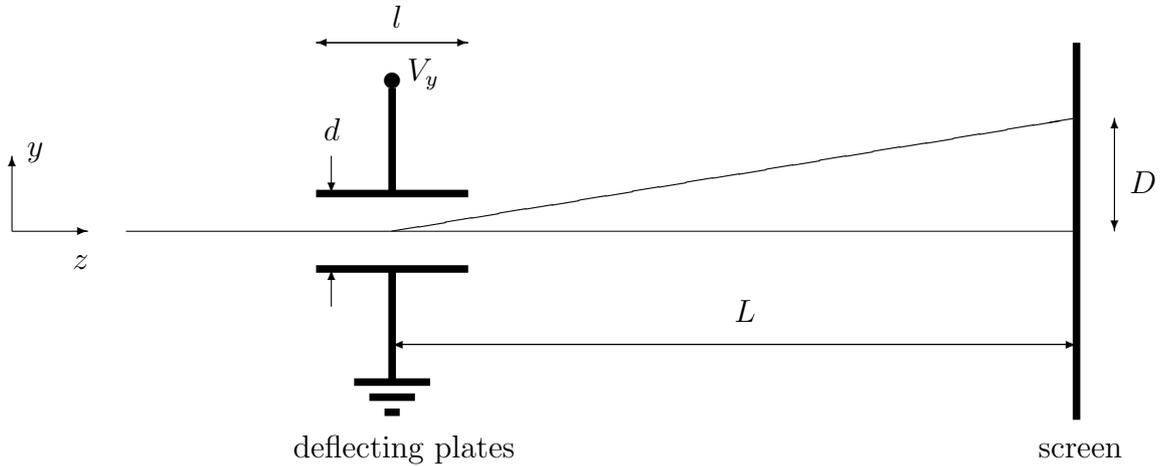

Figure 2. Deflection of electron beam in the tube.
where d is the plate separation (see Fig. 2). This electric field will accelerate electrons in vertical directions with a_y which can be obtained from formulae (1), (3) and (5):
The quantity measured in the experiment is the vertical beam displacement D on the screen (see Fig. 2). Electrons travel with constant velocity between the plates and the